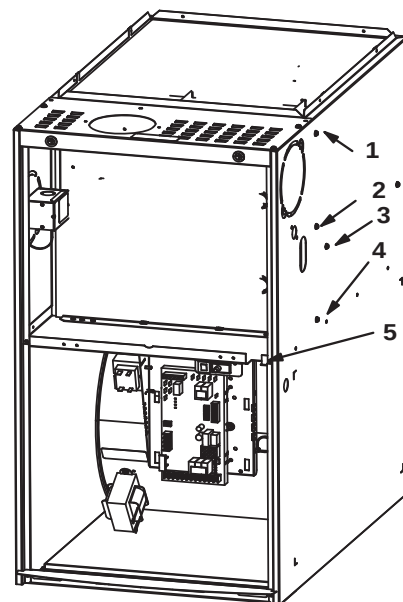

Figure 30.
8. Remove heat exchanger. It may be necessary to spread cabinet side to allow more room. If so, remove five screws from the left side or right side of cabinet. See **Figure 30**.